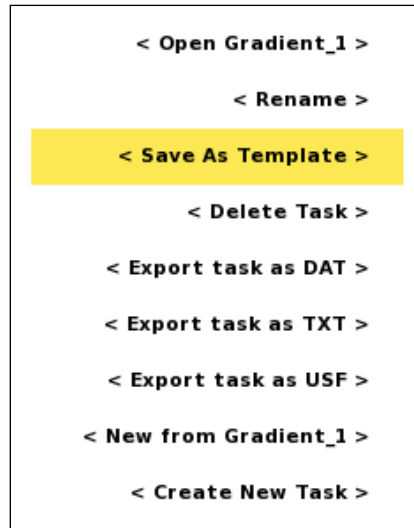

Figure 25 Task Option menu with the Save As Template item highlighted
A *Template* can only be created from the “*Projects/Task List*” Page using the *Task* option menu (Figure 25).
- Move the highlight the <Save as template> item (Figure 25)